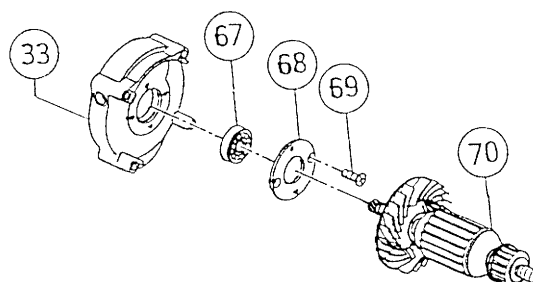

Fig. 9
(7) Disassembly of Inner Cover (A) [33] and the Armature Ass'y [70] section (Fig. 9)
Prior to mounting the Armature Ass'y [70] in the Housing [40], press-fit the Ball Bearing 6001VVCMP2L [67] to prevent the Armature Ass'y [70] from becoming dislodged from the ball bearing portion at the fan side when removing the Armature Ass'y [70] from the Housing [40]. (Fig. 9)